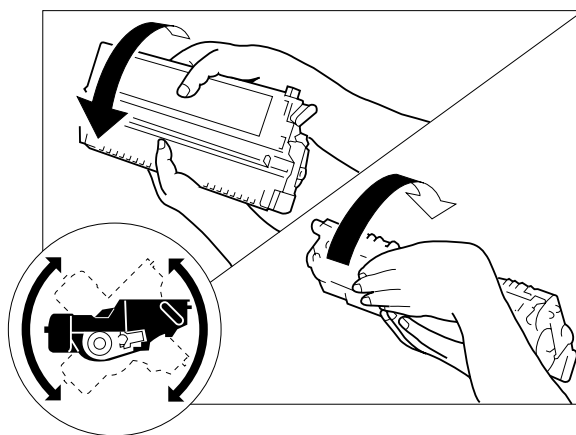

**Figure 1-402E**
- 1) Remove the cartridge from the copier, and rotate it several times as shown in Figure 1-402E.